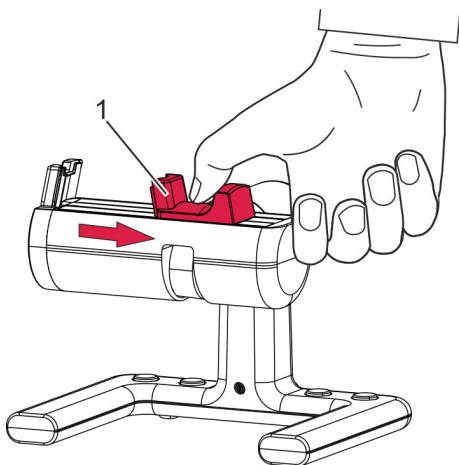

Fig. 10: Tightening the clamping jaws
1. ➤ Pull the clamping jaw (Fig. 10/1) outwards and hold it.